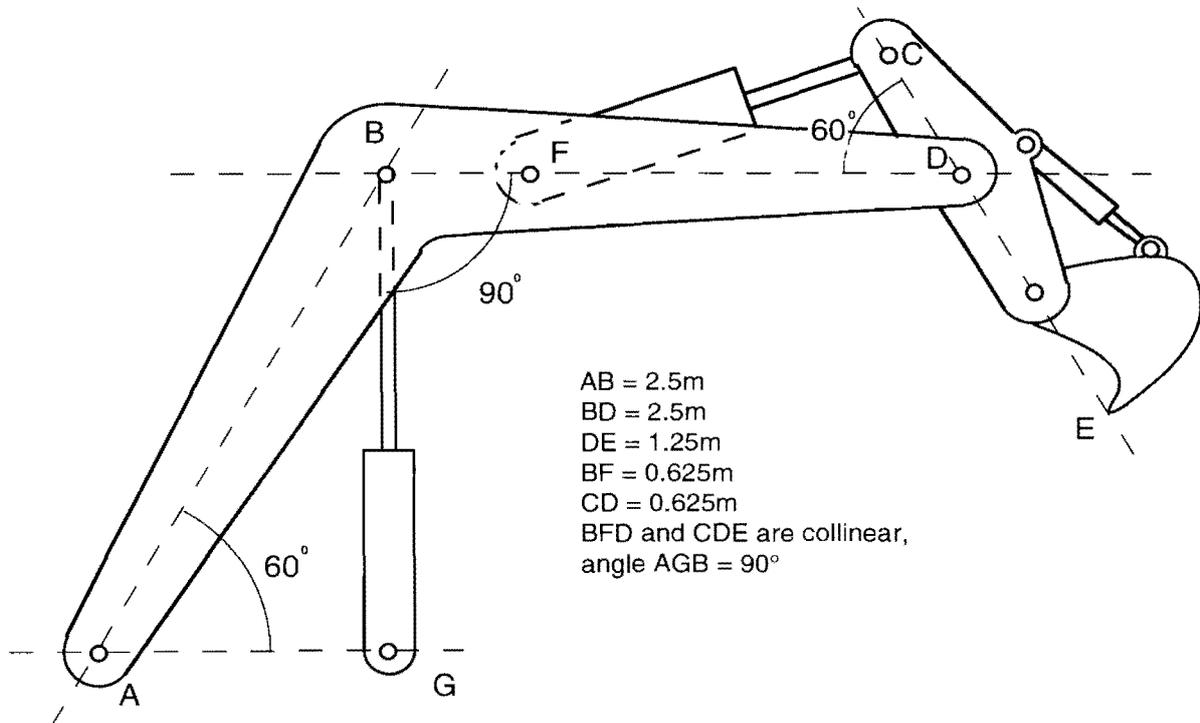

Figure 3
3.\* The arm of an excavator is drawn to scale in Fig. 3. The attachment points to the excavator main frame are A and G and these points can be assumed to be fixed in position. With the bucket ram (unlabelled) held at a fixed length and the rams BG, CF moving in their cylinders at  $0.06 \text{ ms}^{-1}$ , contracting and expanding respectively. By drawing a velocity diagram for the mechanism, find the velocity of the cutting teeth at E. The suggested scale for the velocity diagram is 5 mm to represent  $0.01 \text{ ms}^{-1}$ .
(b) For the excavator shown in Fig 3, a cutting force of 25 kN is applied to the cutting teeth at E. If this force is collinear with the tooth velocity at E, find the power required to supply this cutting force.